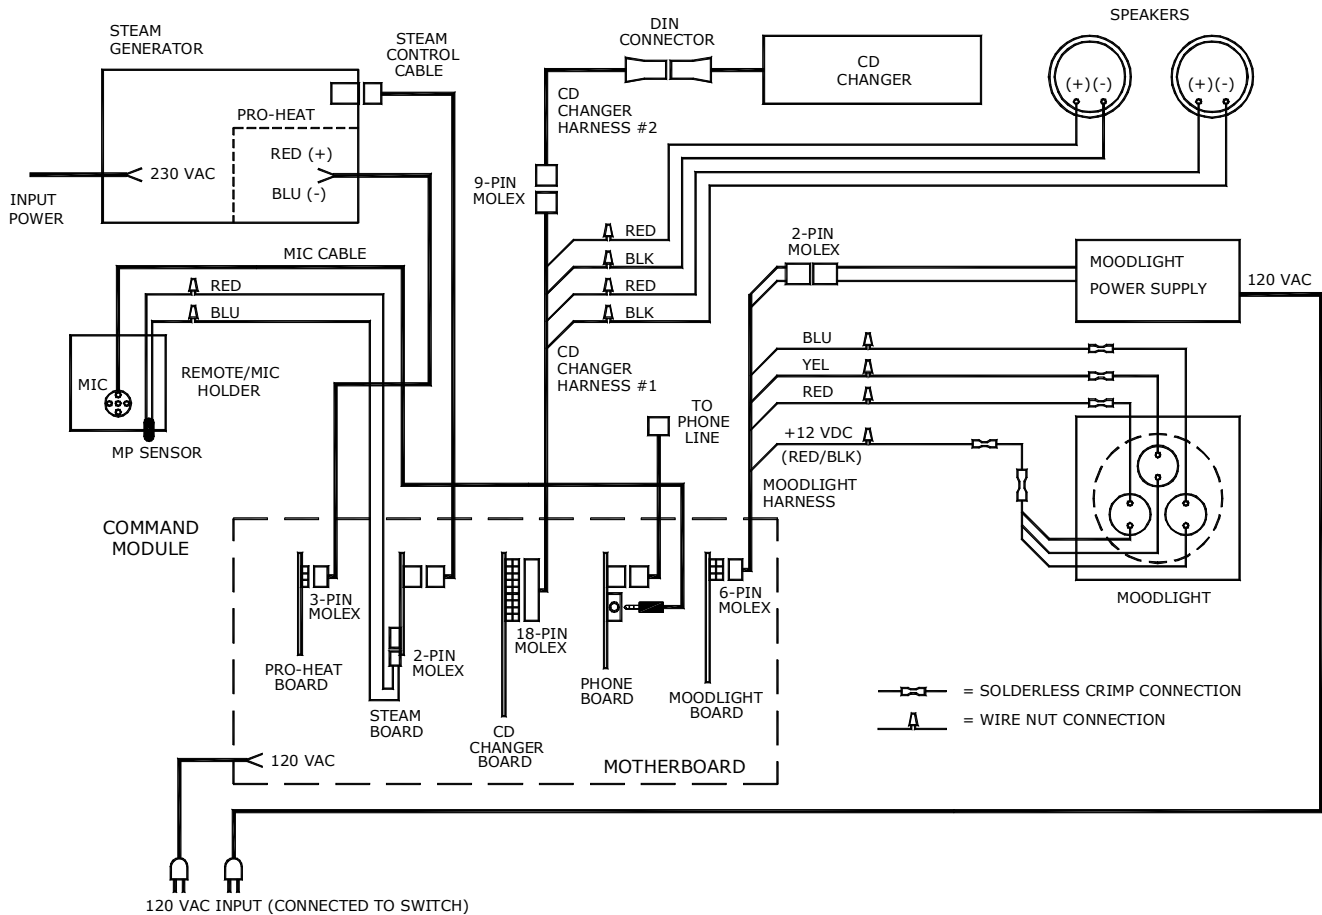

Figure 15 Ambiance Steam Shower Wiring Diagram (with all options).
20. Connect the various components of the Ambiance Steam Shower System as shown in the following wiring diagram (see **Figure 15**). **All wiring for the system exits out the holes in the back of the Command Module.**